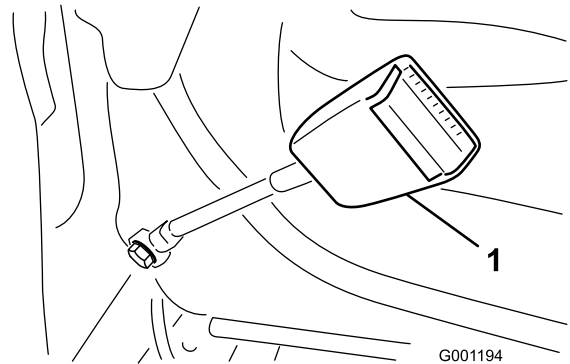

Figure 6
Install each end of the seat belt in the holes in the back of the seat with (2) 7/16 x 1 inch bolts, 7/16 inch flatwashers and 7/16 lockwashers (Figure 6). Tighten securely. The latch side of the belt is to be mounted to the left side of the seat.